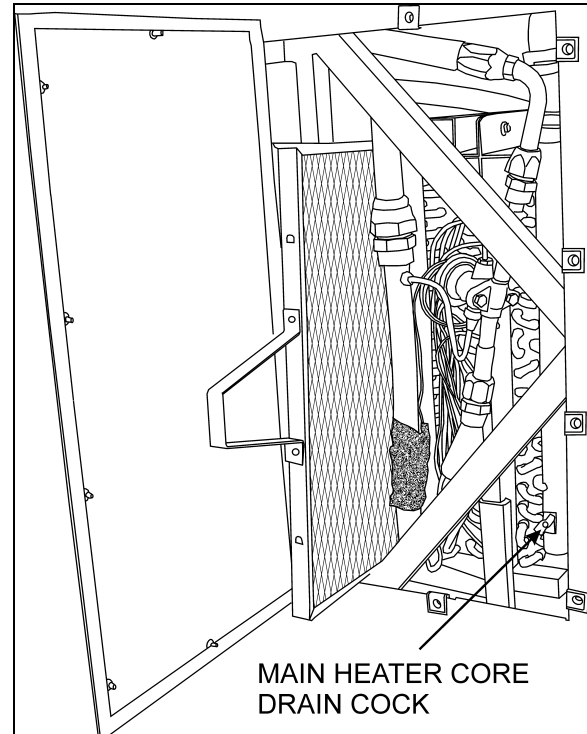

FIGURE 43: EVAPORATOR COMPARTMENT
4. Open drain cock in bottom of heater core, you can unfasten a hose connection on top of heater core (Figure 43) in order to allow air to enter while draining.